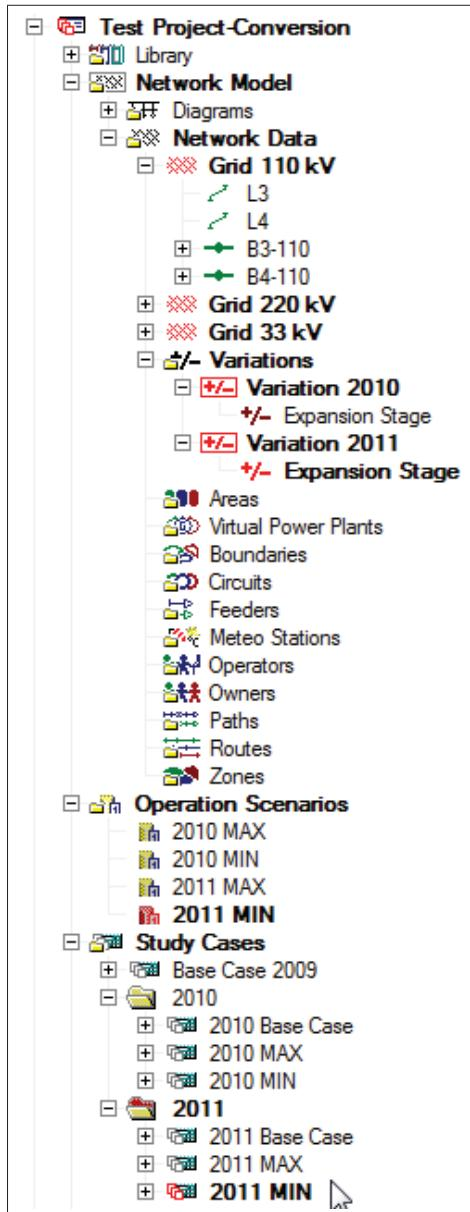

Figure 17.10.3: Resulting Project Structure
6. After converting System Stages “2010 Base Case” and “2011 Base Case” (with Network Data modifications) to Variations, and System Stages “2010 MAX”, “2010 MIN”, “2011 MAX”, and “2011 MIN” (with operational modifications) to Operation Scenarios, the Variations and Operation Scenarios are assigned to Study Cases. Figure 17.10.3 shows the resulting project structure for this example, where all System Stages have been converted to Variations and Operation Scenarios.